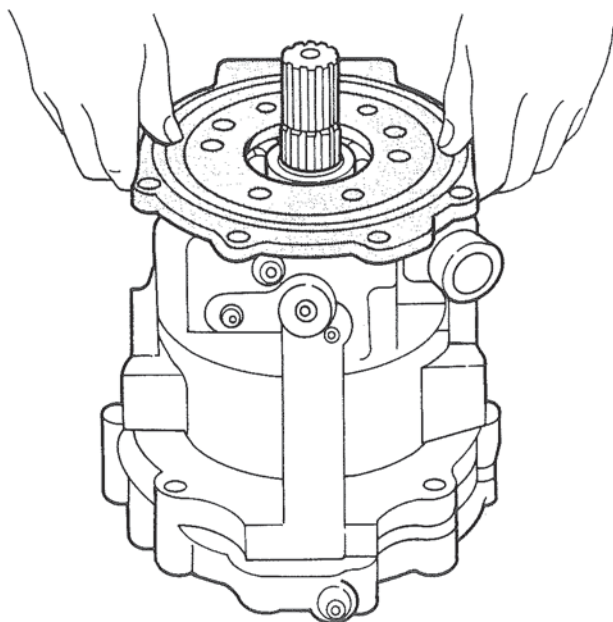

Figure 17. Assembling Reduction Unit Adapter.
3. Install the reduction unit adapter on the rear of the transmission case located on the outer diameter of the bearing. Figure 17.